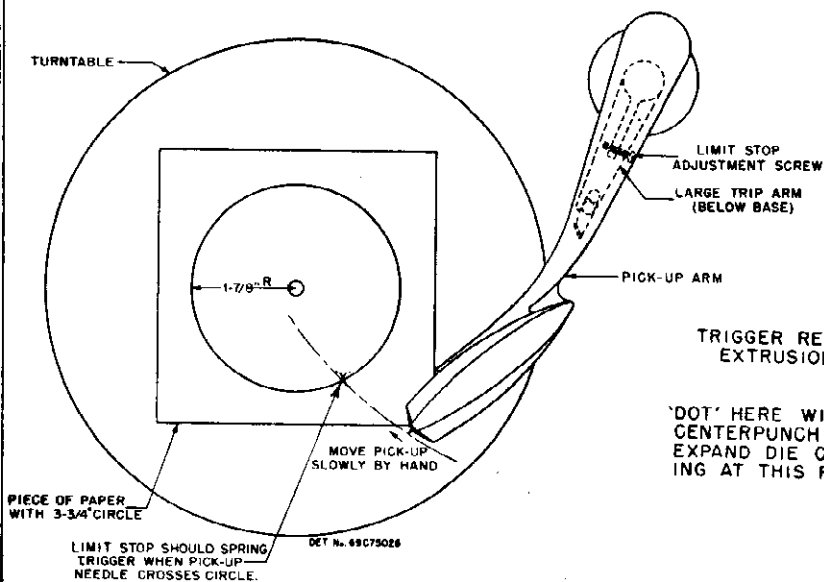

FIGURE 11 ADJUSTMENT OF LIMIT STOP
1. Scribe a 3-3/4" diameter circle on a piece of stiff paper. Cut out a 1/4" hole at the center of the circle and slip the paper over the record post of the record player. See Figure 11.
3. With a screwdriver, adjust the limit stop adjustment screw, which is located on the trip arm. See Figure 11. Turn the